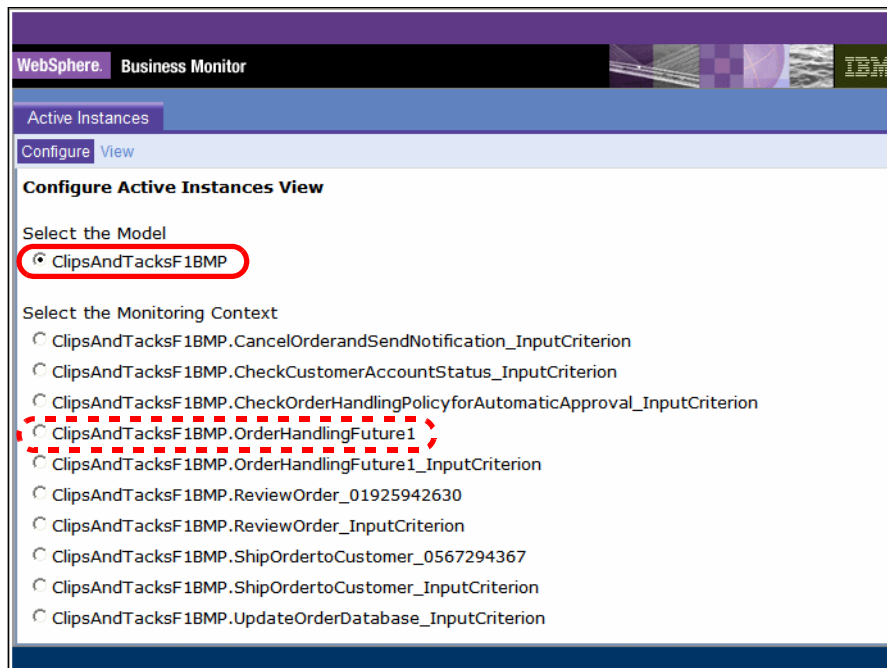

Figure 12-85 Monitor unit test environment (UTE): Select the context
- ▶ Select the *ClipsAndTacksF1BMP* model and the monitoring contexts are displayed (Figure 12-85).